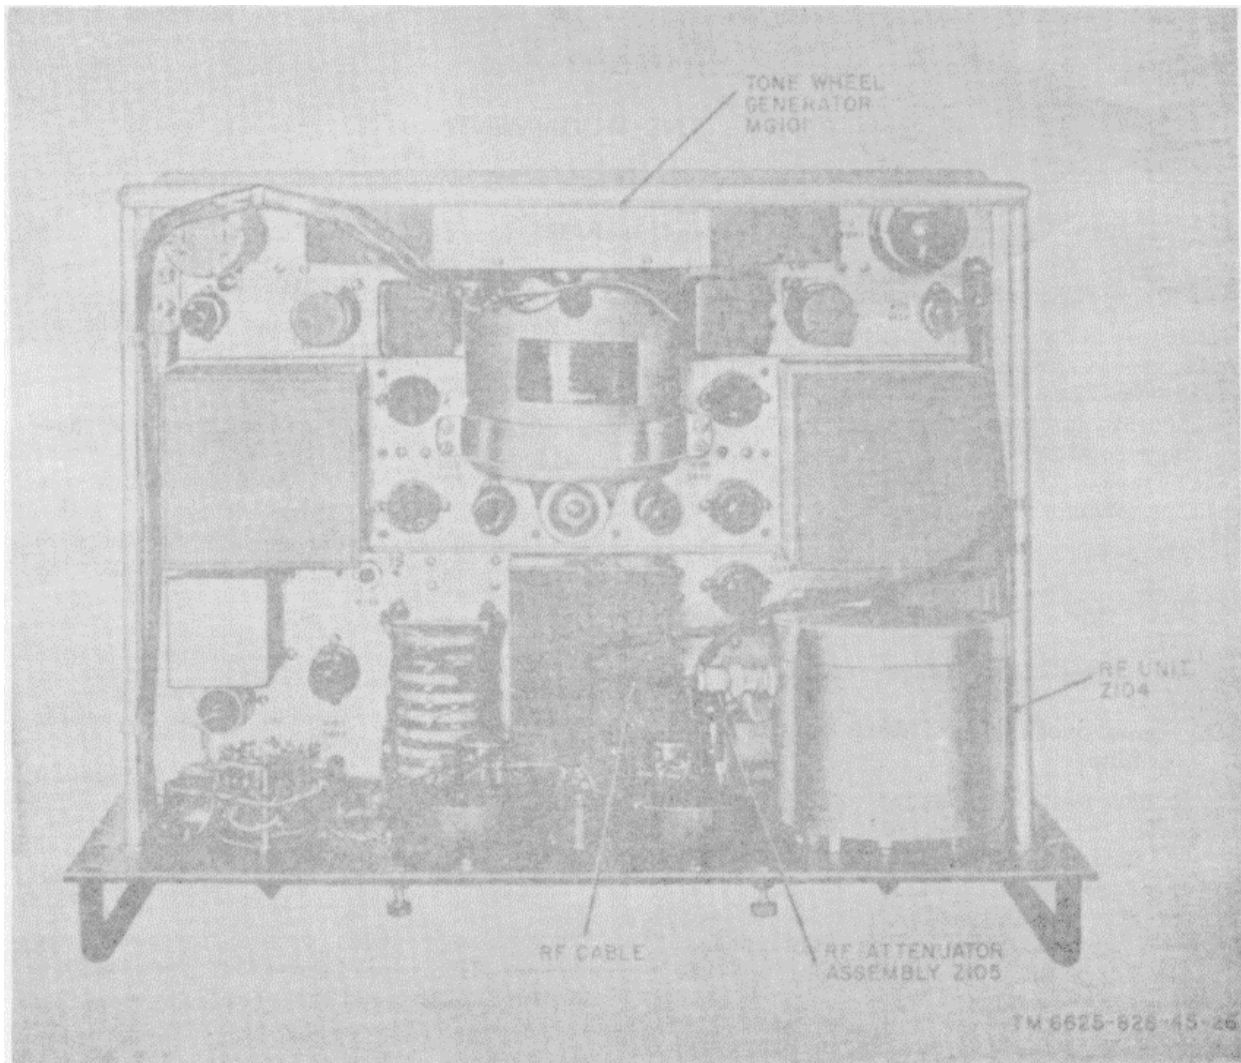

Figure 3-1. Location of major components and associated parts.
Tone generator MG101 is mounted on the chassis at the rear of the test set (fig.3-1).
The RF unit is mounted on the back of the front panel (fig. 3-1).
(1) Place the RF unit near its proper position so that the connections to feedthrough capacitors C134, C157, C155, and C133 can be soldered. Solder the connections to C134, C157, C155, and C133.
(3) Connect the RF cable (fig. 3-1) to the RF unit.
(4) On the front panel, replace the two crystals and the crystal cover.
RF attenuator assembly Z105 is mounted behind the front panel above and below the main chassis (fig. 3-1).
attenuator assembly Z105 (fig. 3-1) from both the top and bottom of the chassis.
(3) On the lower portion of the attenuator assembly, disconnect the RF cable (fig. 3-1) from connector J103 (fig. 3-6).
(4) On the upper portion of the attenuator assembly, loosen two setscrews H119 and remove gear MP111. Remove shaft MP112, washer H120, and washer H121.
(5) On the front panel, remove the cc from 1 VOLT connector J105.